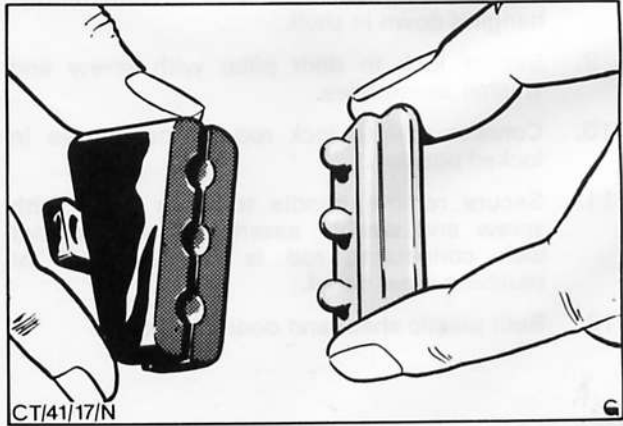

Fig. 25. Inserting nylon pad into striker plate rubber
3. Refit nylon pad to underside of rubber, Fig. 25.